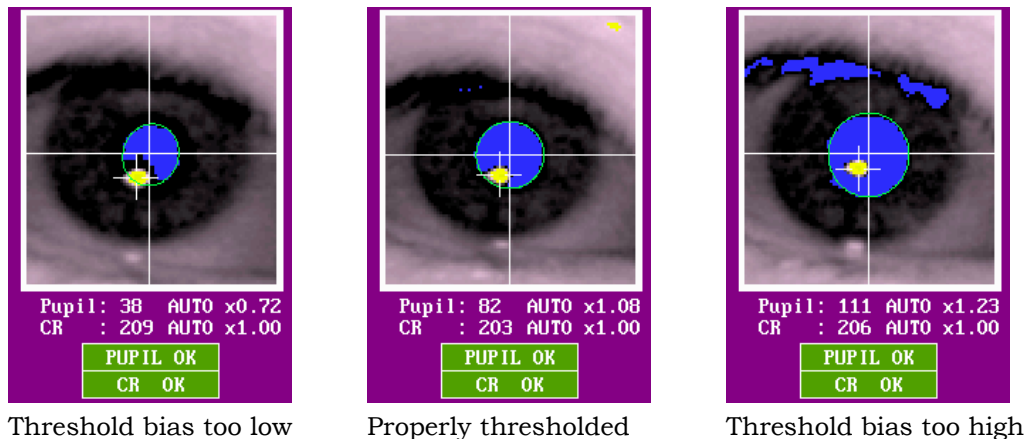

Figure 3-10: Pupil and CR Thresholds and Bias Values
- 12) In the zoomed camera image, the threshold values for pupil and corneal reflection are displayed under the camera image. Unlike other versions of the EyeLink 1000 eye tracker, these threshold values are automatically updated. The number beside the pupil threshold value is pupil bias – the extent to which the pupil threshold is modulated (see Figure 3-10). The user may adjust the bias using the pupil threshold adjustment buttons or with the UP and DOWN keys. Raising the bias increases pupil coverage (i.e., increasing the blue area) while lowering the bias decreases the pupil coverage (i.e., decreasing the blue area). Heuristically, pupil biases should be in the range of 0.9 to 1.1. A value